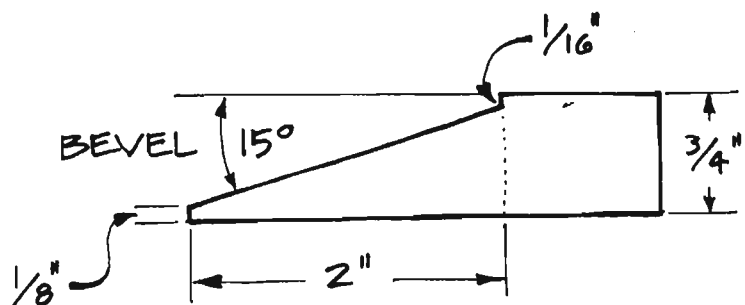

Figure 4
1. Start by cutting four panels (K) from 1 x 8 pine, each measuring 7 by 14-5/8 inches.
2. Set your saw blade to cut 15 degrees off vertical, and make a 2-inch-long bevel on all four edges of each of the four panels (K). The remaining thickness of the cut side should be 1/8 inch. A diagram of the resulting cut is shown in *Figure 4*.